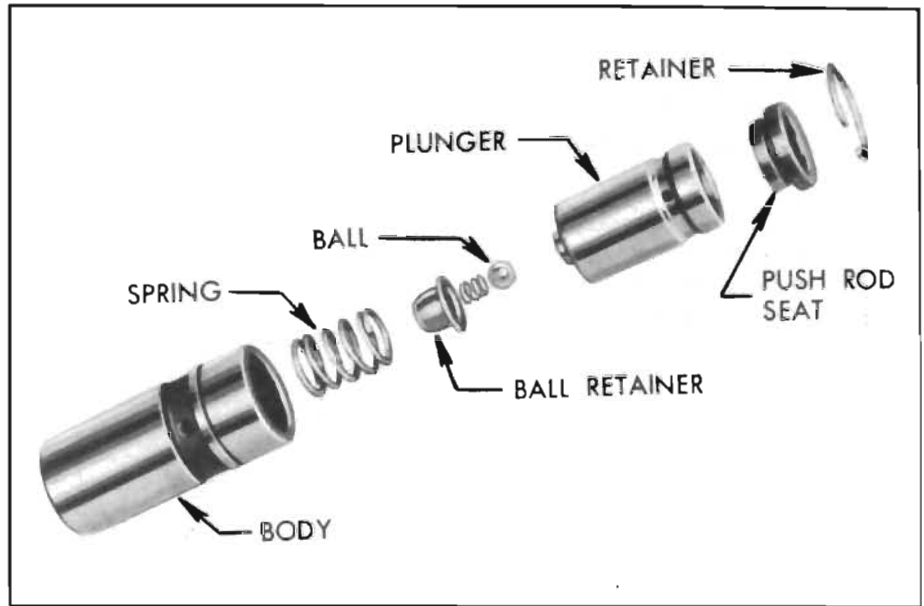

Figure 2-72—Hydraulic Valve Lifter Parts
16. Hold plunger in vertical position with feed hole up, then rinse and install the check ball, check ball spring, ball retainer, spring, and body over the plunger. See parts in Figure 2-72.